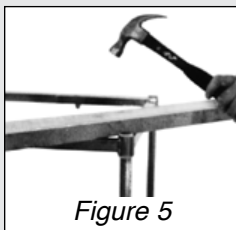

Figure 5
- Secure frames and slides, using a board and a hammer (see *Figure 5*).